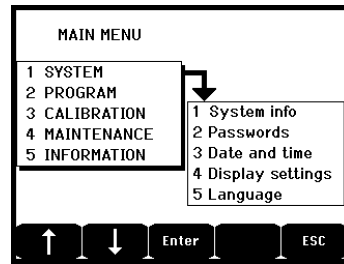

Figure 40: Main menu.
G.	Function keys. <ul style="list-style-type: none"> ■ Previous detector: Display of measurements of previous detector; scanning of all the detectors on all the lines. ■ Next detector: Display of measurements of next detector; scanning of all the detectors on all the lines. ■ Menu: Display of main menu See paragraph "Main menu" on page 46. ■ See 4 Detectors: Display of a group of 4 detectors (detector tag, barograph with indication of alarms, value of current measurement with unit and gas detected). Use the Page down or Page up keys to display all of the next 4 detectors; passage to the next zone is automatic. ■ See 8 Detectors: Display of a group of 8 detectors (detector tag, value of current measurement with unit and gas detected). Other buttons similar to the selection. See 4 detectors. ■ See 16 Detectors: Display of a group of 16 detectors (detector tag, value of current measurement with unit and gas detected). Other buttons similar to the selection. See 4 detectors. ■ See 1 detector: Display in normal mode (Figure 40). ■ Curve: Display of the measurement curves of the last 4 hours (Figure 41). The → and ← keys allow cursor displacement through the time scale. The vertical dotted line displays the concentration and time stamp of the point being considered. Escape: return to display of values.
K.	Zone of indication of activated alarms with blinking threshold display. The screen changes to inverse video (Figure 40, screen on the right).